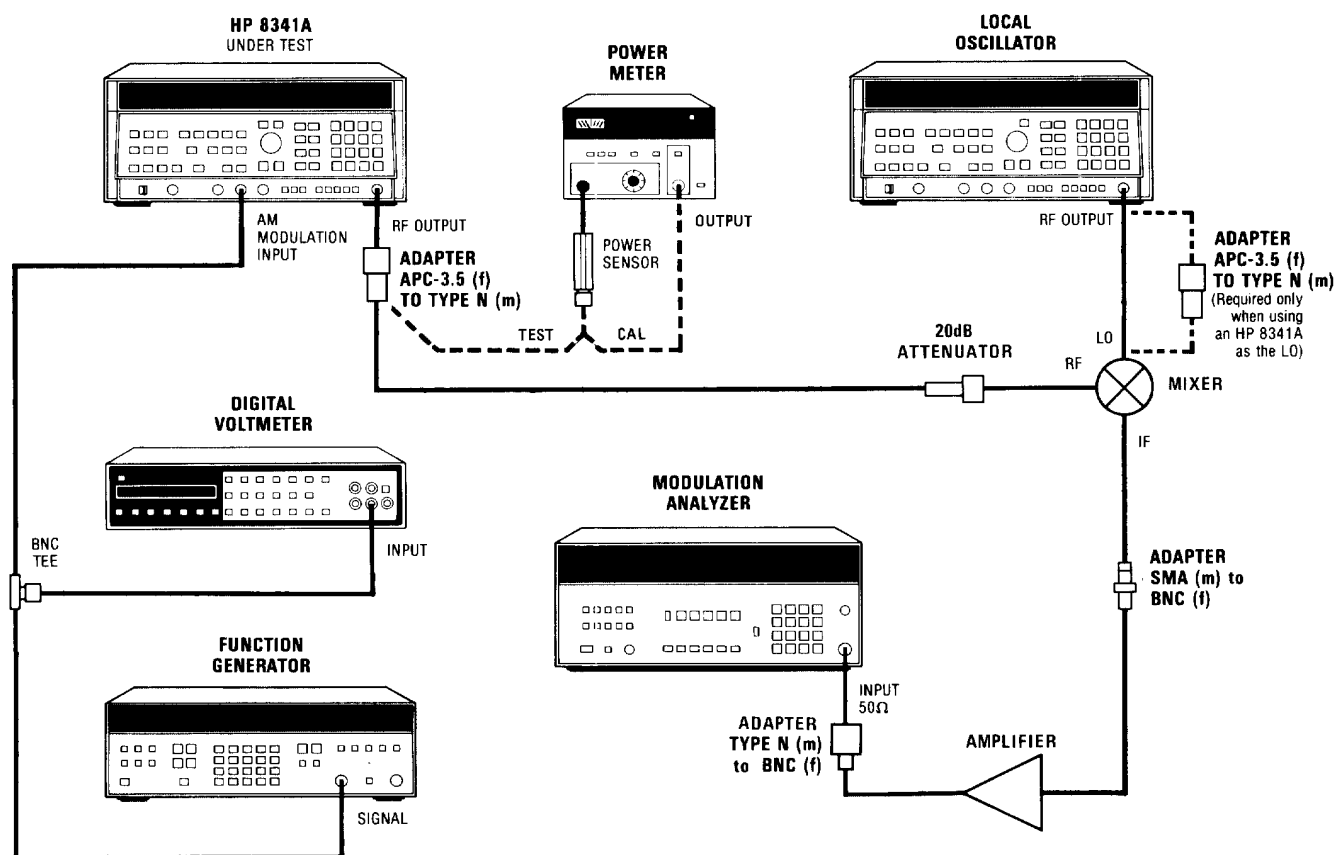

Figure 4-19. Amplitude Modulation Test Setup
1. Connect equipment as shown in Figure 4-19. Connect the mixer LO port at the local oscillator HP 8341A RF output. Connect the HP 8485A Power Sensor to the power meter. Allow at least 30 minutes warm up time. Set the power meter's calibration factor switch to include 1.5 GHz, then zero and calibrate the power meter. Connect the power sensor to the HP 8341A under test RF output.